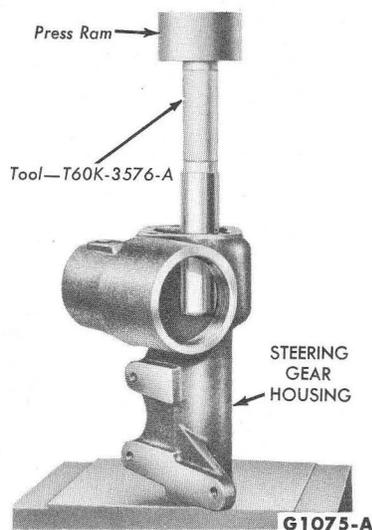

FIG. 8—Sector Shaft Bushing Installation
1. If the sector shaft bushings have been removed, press new bushings into the housing (Fig. 8).